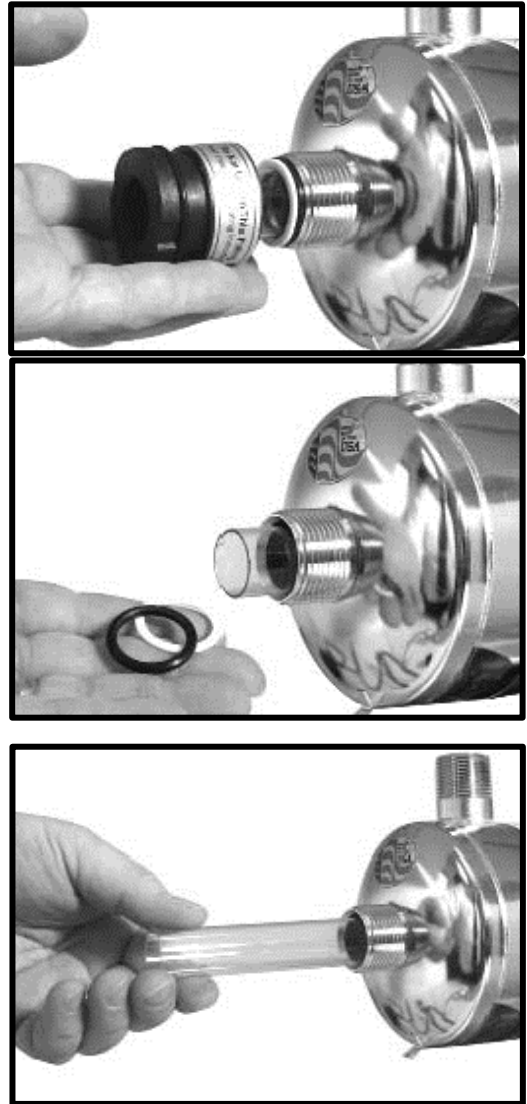

Figure 16. Replacing quartz sleeve
3. Unscrew static gland nuts from each end of the chamber as shown in the top image of Figure 16. Avoid striking quartz sleeve with static gland nut.
4. Remove Teflon® washer and O-ring from both ends of quartz sleeve as shown in the middle image of Figure 16. Teflon® washer will sometimes remain within the static gland nut. If so, remove Teflon® washer from static gland nut before proceeding.
5. Carefully remove quartz sleeve from chamber as shown in the bottom image of Figure 16. **NOTE:** It is advisable to support the quartz sleeve on the backside with your finger so that it does not drop to the bottom of the chamber as it slides into the chamber.